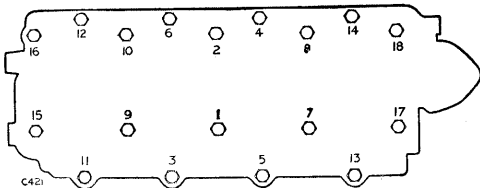

Fig. A-51—Order of tightening cylinder head bolts
5. Tighten down the cylinder head bolts in the order indicated by Fig. A-51. The  $\frac{1}{2}$  in. U.N.F. bolts, including those that also secure the rocker brackets, must be pulled down to 65 lb/ft (8,9 mkg) whilst the  $\frac{5}{16}$  in. U.N.F. bolts securing the rocker brackets only are pulled down to 12 lb/ft (1,66 mkg).